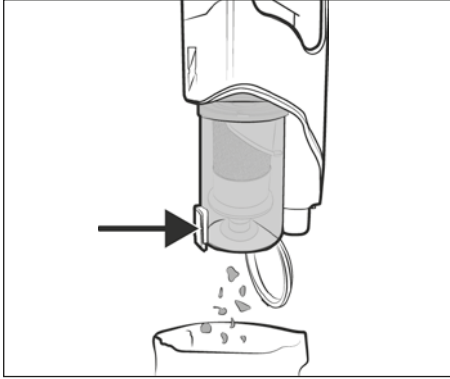

Fig. 17
- 2) Hold the dust container **7** in a waste bin and press the dust container lid release button **8**. The dust container lid **9** opens and the contents are emptied into the waste bin (see Fig. 17). Then close the dust container lid **9**.